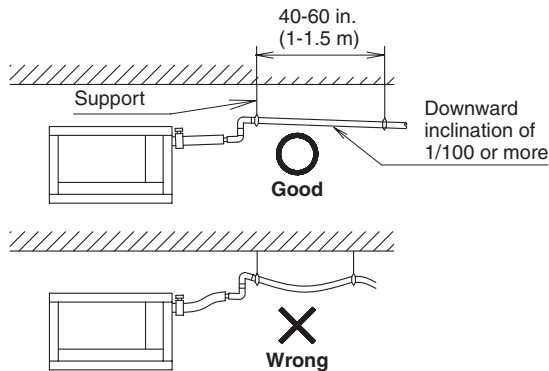

Fig. 13
- Install the drain piping as short as possible with downward inclination of 1/100 or more and without such that air may not stagnate. (Refer to Fig. 13) (It may cause abnormal sound such as bubbling noise.)
- Install supports at a distance of 40-60 in. (1 to 1.5 m) so that the piping may not deflect. (Refer to Fig. 13)
- Make sure to use the attached drain hose (2) and the metal clamp (1).